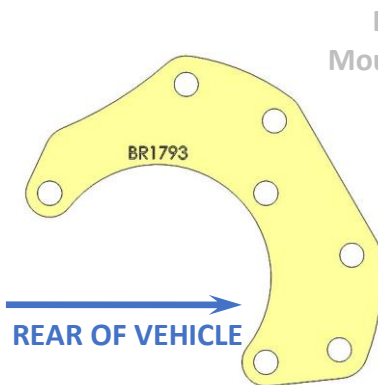
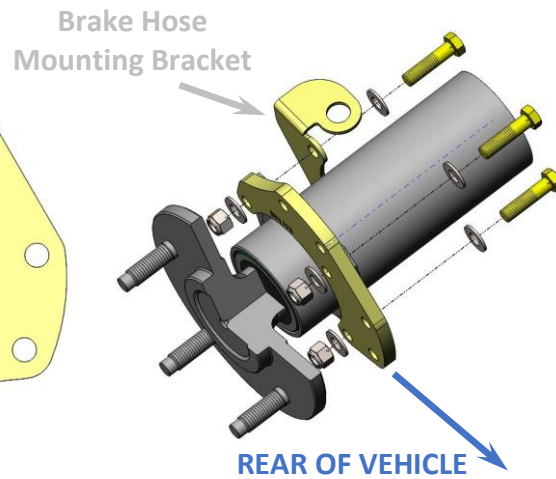
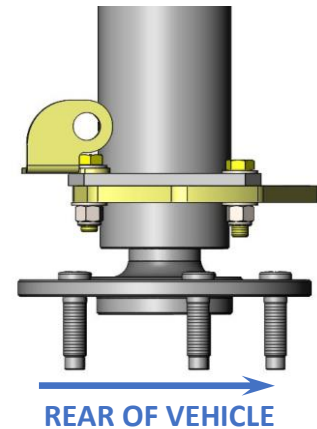

Figure 2a – Primary Caliper Mounting Bracket Orientation
Figure 2b – Primary Caliper Mounting Bracket Installation
Figure 2c – TOP VIEW Primary Caliper Mounting Bracket Installed
6. Install the Primary Caliper Mounting Bracket using the supplied 3/8"-24 x 1.500" Grade 8 Hex Head Bolts, making sure there is a provided 3/8" SAE Flat Washer under each bolt head. See Figure 2a below for determining proper bracket orientation. **Note: The upper forward most bolt goes through the supplied Brake Hose Mounting Brackets top mounting hole.** These brackets are left and right specific and are designed so the tab faces inward to the vehicle. Once everything is in place, loosely secure the bolts with the provided 3/8" SAE Flat Washers and 3/8"-24 Nylon Lock Nuts. **These bolts will be torqued in a later step.** See Figure 2b and Figure 2c below for installation reference.